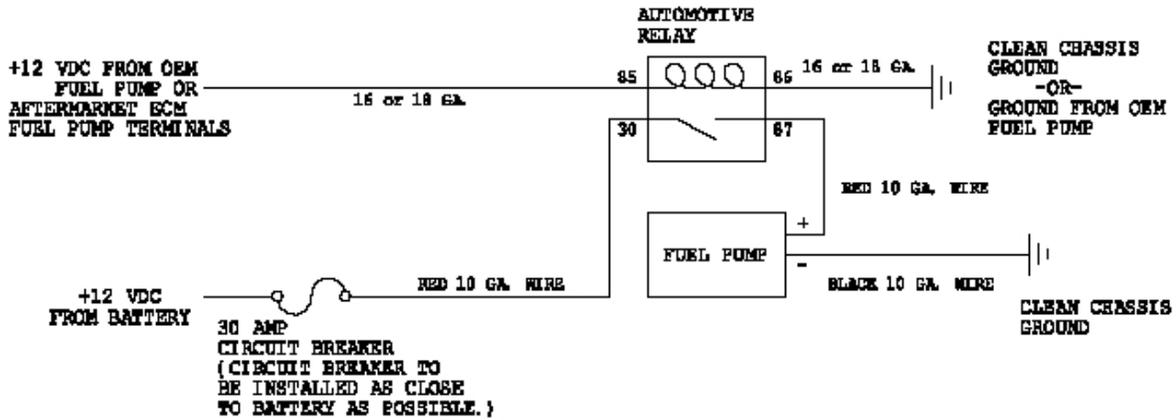

FIGURE 2-1
11. Use the wiring diagram below to wire up your new Aeromotive fuel pump. To make installation easier use Aeromotive fuel pump wiring kit, part # 16301. **Figure 2-1**